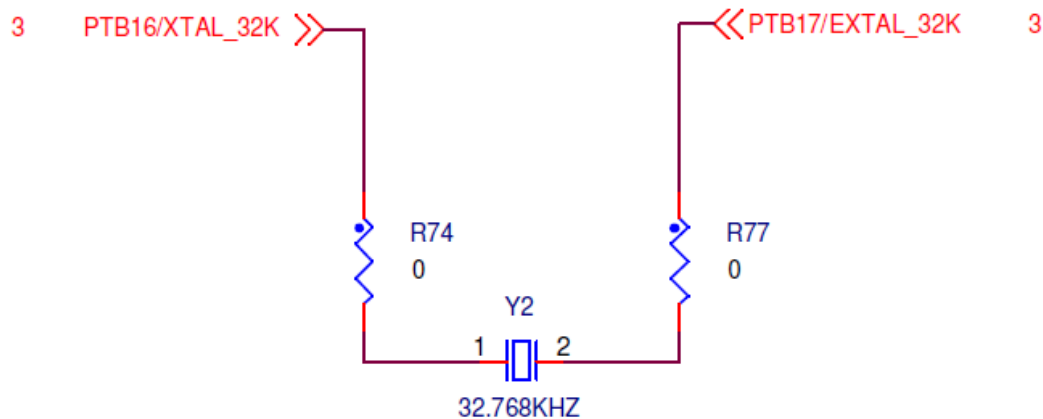

Figure 8. FRDM-KW41Z 32.786 kHz oscillator circuit
- A secondary 32.768 kHz crystal Y2 is provided (see Figure 8)